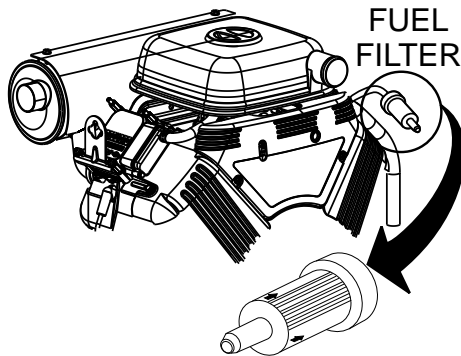

Figure 21. Fuel Filter Location
1. Replace the fuel filter (Figure 21) every 200 hours.